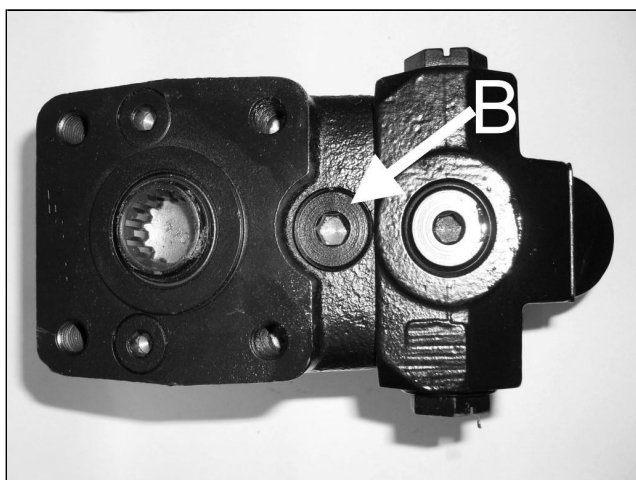

Fig.4
- Loosen the nut **A** in figure 4;
The cap **B** in Fig.4, gives access to the valve setting maximum of the steering unit.